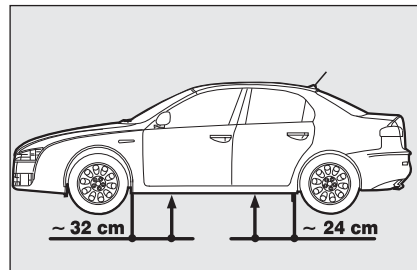
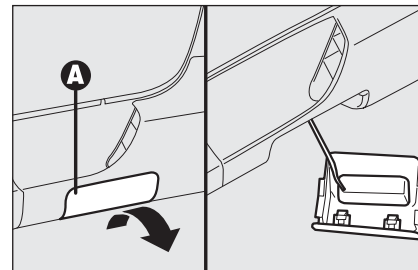

fig. 7
fig. 9
- The jack shall be fitted as shown in **fig. 7** (for versions fitted with sideskirts, before fitting the jack, remove cover **A-fig. 9** set on the sideskirt as shown in the figure);